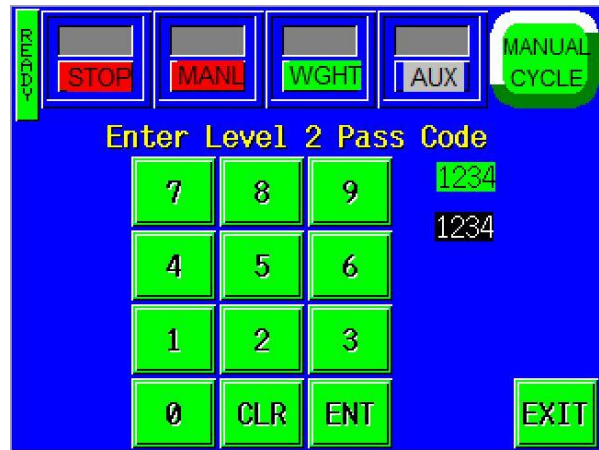

Figure 3-24
2. **Level 2:** This level pass code, when the pass code function is enabled, prevents the operator from accessing settings screens that affect the operation of the equipment. If the touch screen defaults back to the Operation screen after a preset amount of time elapses, the operator must enter this code to access settings screens. To change this code, press the **Level2 PW** button on the Password Setup Screen, enter a new code on the numeric keypad, and press the **ENT** button. See Figure 3-24.